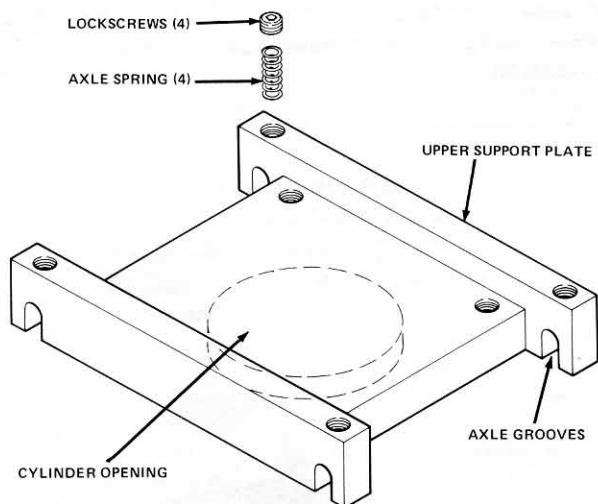

Figure 2
- b. Install a lock screw in each of four corner holes in the upper support block rails (Figure 2).